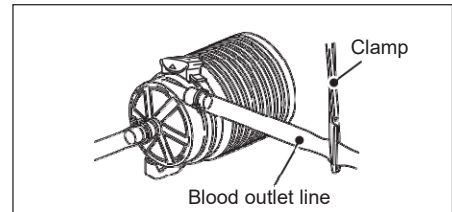

Figure 5-6
1. **Clamp the blood outlet line of the centrifugal pump (Figure 5-6), change the motor speed to 3000 RPM, and rotate it for approximately 30 seconds.**